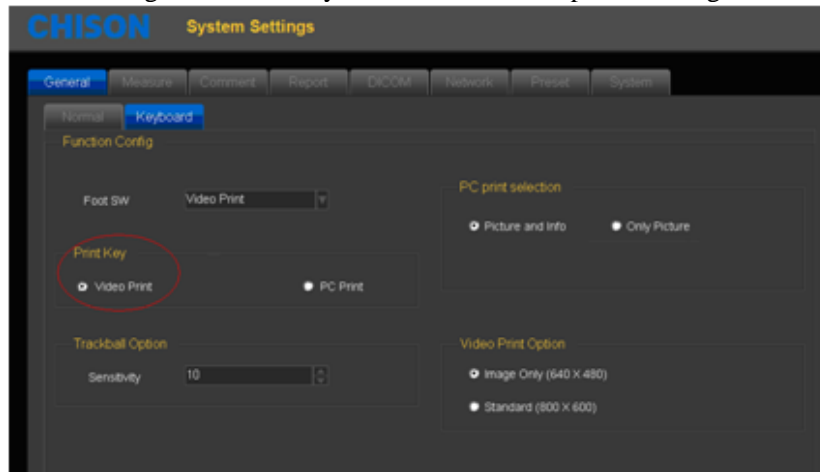

Fig.3-7
- 5) Set the video print option to choose different methods for video print. Choose the "General" setting, and select Keyboard submenu. See picture in Fig. 3-7.